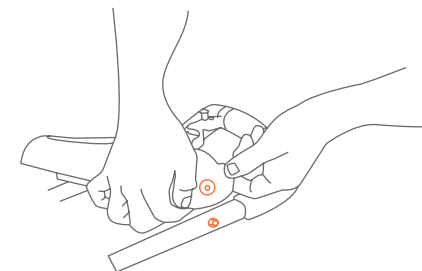

Fig. 7
- To attach the parent tray, align the fittings on the ends of the parent tray with the fittings on the outsides of the handle. Hook the hole in the parent tray. Pull outward on the opposite end while pushing down on the tray until locked onto the stroller handle. Please be careful not to pinch your fingers when installing the parent tray (Fig. 7).